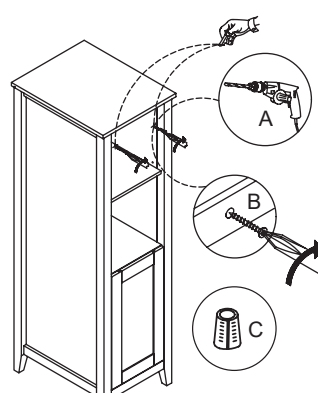

Figure 3
- 5: Secure the linen cabinet to the wall by inserting (x 2) #8 x 2 in. screws (B - not included) through the back rail of the linen cabinet. Figure 3.